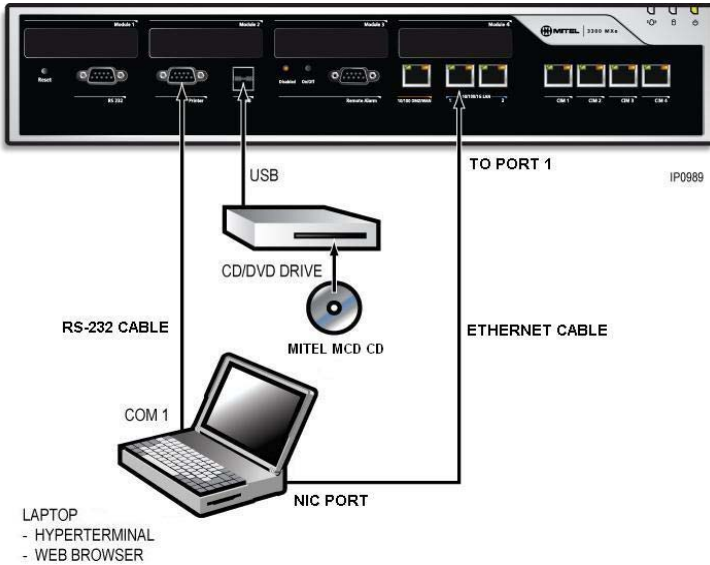

Figure 26: Laptop and CD/DVD Connections
5. Connect the RS-232 serial cable between the COM 1 port on your laptop to the server printer port (see Figure 26).